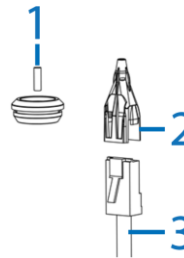

Figure 13
22. Insert the RJ-45 cable (3) (Figure 13) into the insert tool (2) (Figure 13) remove the rubber grommet from the camera lens module.
23. Pierce the rubber grommet (1) (Figure 13) by passing the insert tool and cable through the center of the rubber grommet.